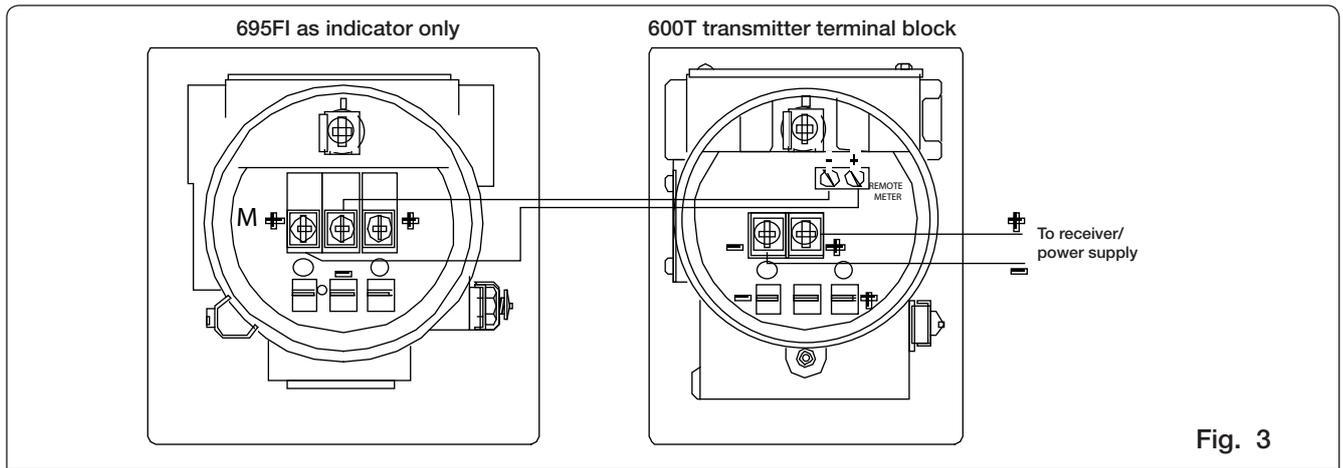

Fig. 3
- 1) Indicator only, i.e. coupled to the transmitter's terminal block (fig. 3)